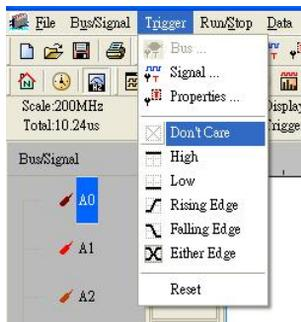

Fig 4-18 – Trigger menu
3. Click Trigger on the menu bar and choose a trigger from the list of triggers as shown in Fig 4-18.